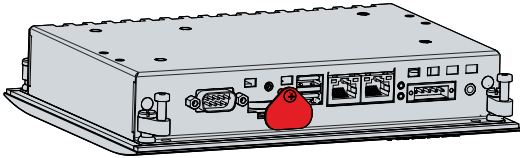

Fig. 18: CP6606_Access to battery and storage medium
2. Insert the new battery into the PC by hand. Make sure that the polarity is correct as shown in Fig. 18.